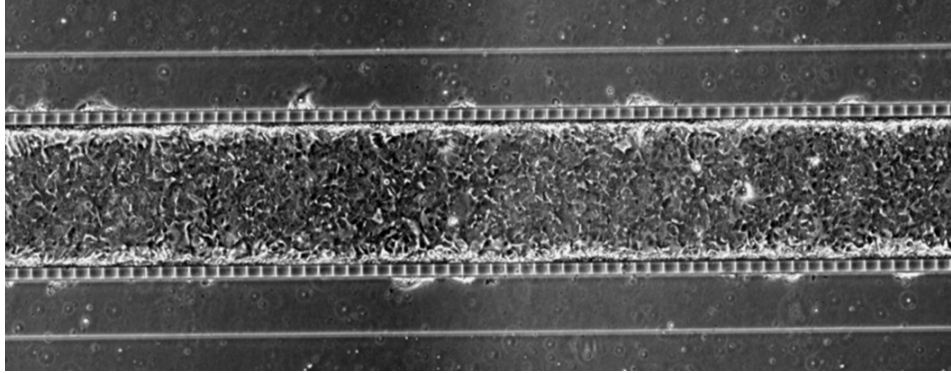

Figure 2. HBE monoculture after incubation with differentiation media on a liquid-liquid interface for 24 hrs.
2. Connect the one tubing from the manifold splitter to the center channel of the microfluidic device (**Figure 2**). This will flow moisturized air over the HBE cells in the center channel.
Figure 2. Illustration of the manifold splitter and its connection to the bubble humidifier, as well as an image of the manifold splitter connected to the center channel of a microfluidic device through tubing.